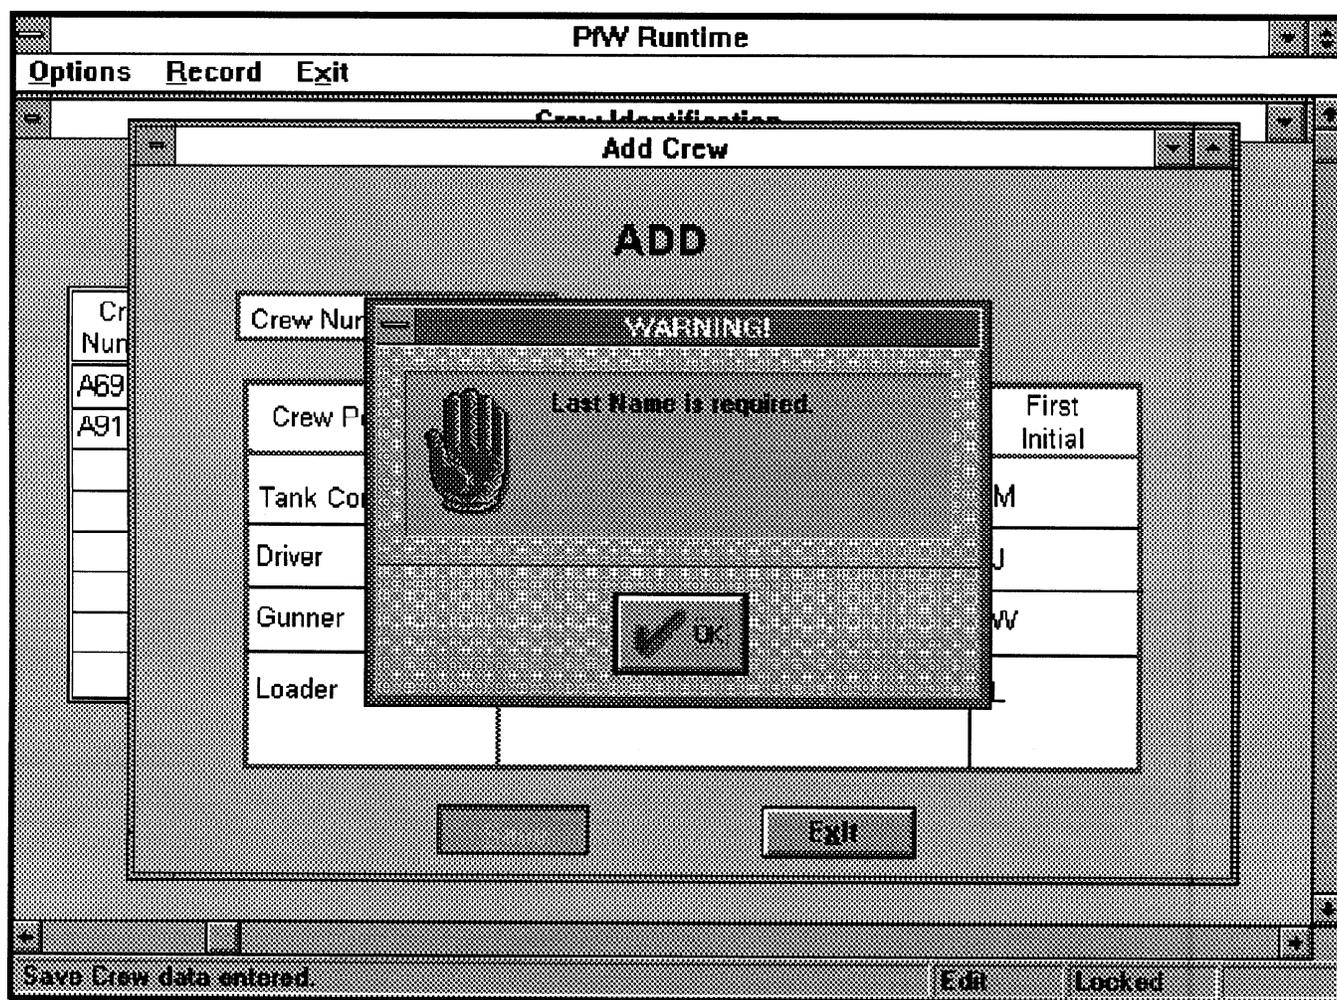

Figure 2-83. Last Name Required Message
- a. Operator errors. For example, when the I/O attempts to exit the Add Crew Screen without completing a last name entry for one of the crew members, AFIST displays the message shown in Figure 2-83.